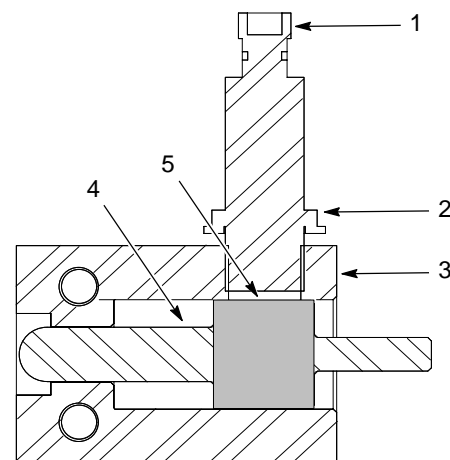

Figure 4 Proximity Sensor Adjustment
See Figure 4. Perform the following if it is necessary to adjust the proximity sensor (1):
1. Disconnect the cable from the proximity sensor (1).
2. Loosen the proximity sensor jam nut (2). Push in on the plunger (4) until the target surface (5) is below the proximity sensor (1).
3. Screw the proximity sensor (1) into the sensor block (3) until it makes contact with the target surface (5) on the plunger (4).
4. Back out the proximity sensor (1) one full turn. Tighten the jam nut (2).